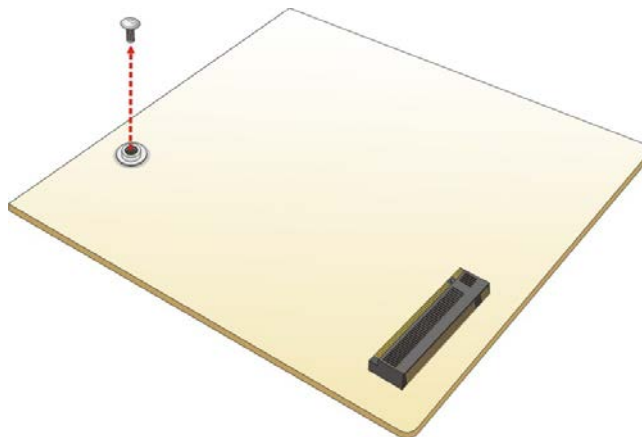

Figure 3-13: Removing the M.2 Module Retention Screw
Step 3: Remove the on-board retention screw as shown in Figure 3-13.